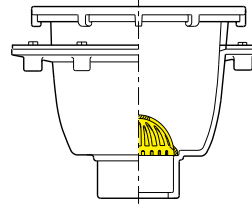
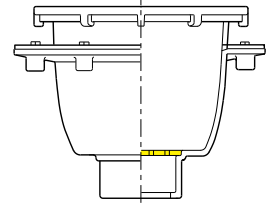

Fig. 8A
Fig. 8B
**Dome and Flat Bottom Strainers:** Dome Type (Fig. 8A) are preferred because their hemispherical design greatly reduces splashing and the large free area prevents clogging, and assures maximum flow. Flat Type (Fig. 8B) are recommended only when a bottom strainer is required for installation in A.R.C. models beneath aluminum buckets where there is insufficient clearance to utilize the dome type. This optional bottom strainer protects the waste line when bucket is removed.